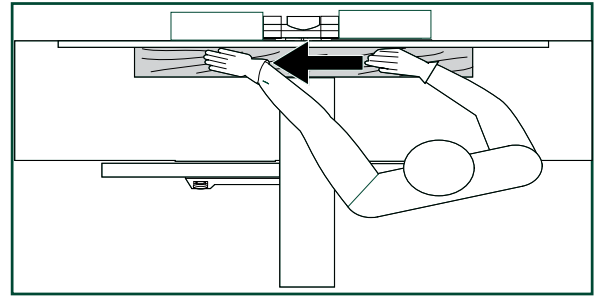

FIG. 38
- When jointing, the feeding direction of the work piece is right-to-left over the cutterhead. FIG. 38.
1. Assume the proper operating position: stand to the side of the infeed table with feet apart for stability through the whole cutting process. FIG. 38.